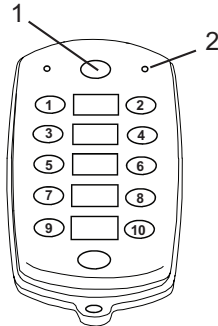

Figure 20
2. Press the POWER ON button (Figure 20, Item 1) to turn the transmitter on. The Active LED indicator (Figure 20, Item 2) should go into the “fast-flash display” mode.